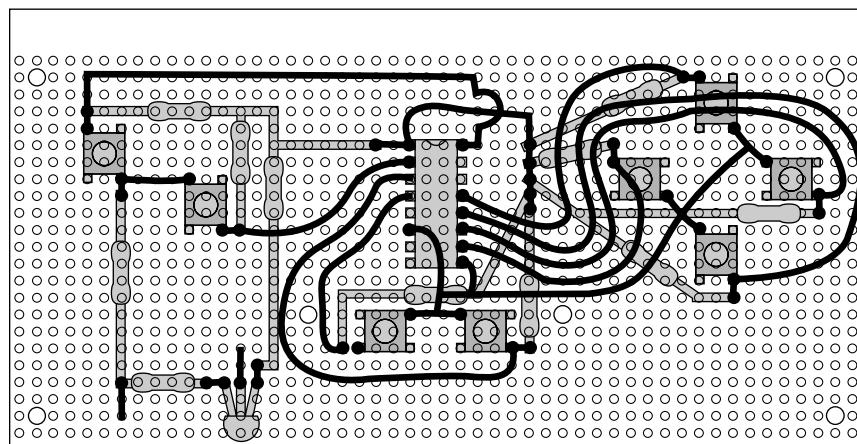

FIGURE 8-28: Connections to make on the back of the control board.
11. When all the components are soldered in place, flip the board over. Use ribbon cable wires or bits of extra leads to make the connections shown in Figure 8-28.